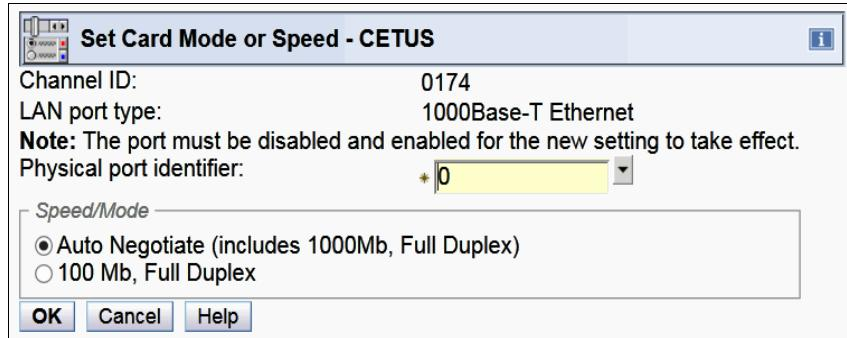

Figure 6-22 Set card mode or speed
- The Set Card Mode or Speed window opens (Figure 6-22). Select the correct port speed from the Speed/Mode list. You can set the speed of port 0 and 1 individually. Click **OK**.